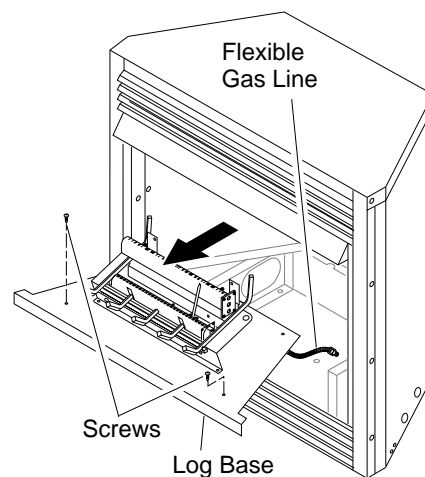

Figure 8 - Removing Log Base from Fireplace
1. Remove screws that attach log base assembly to fireplace. Carefully lift up log base assembly and remove from fireplace, taking care to pull flexible gas line through the access holes (see Figure 8).